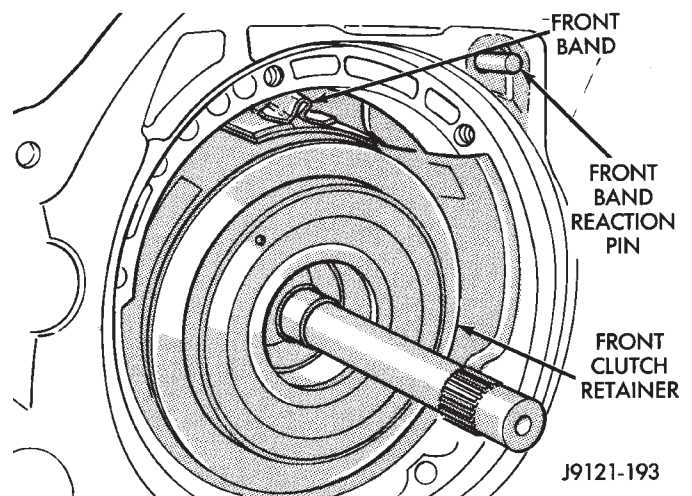

Fig. 147 Installing Front Band And Reaction Pin
- (1) Slide front band over front clutch retainer (Fig. 147).
- (2) Insert front band reaction pin part way into case (Fig. 147).